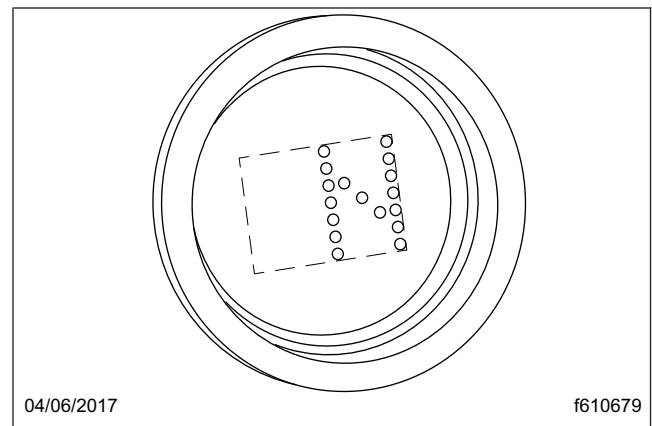

Fig. 8.19, Neutral Display
Neutral (N) is in the center of the three-position selector switch located at the end of the SmartShift control lever. Always start the engine in neutral. To select neutral, move the selector switch to the center position. When neutral is selected, the letter "N" displays on the gear indicator. See Fig. 8.19.